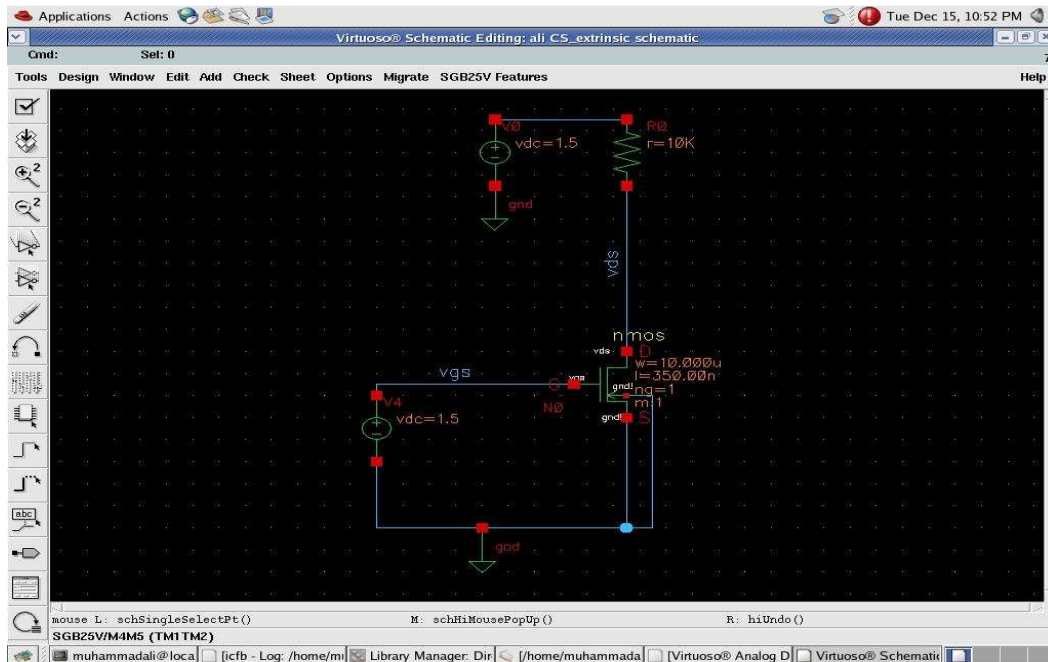

Fig.7: The circuit
Supposedly, you have designed the same schematic that I have shown you in Fig. 7. Now you want to get it simulated so that you can observe the 'time domain' analysis and can also perform the 'ac' and 'dc' simulations. This can be done in the following way by using the *Analog Design Environment (ADE)*.
- With the help of Tools in the ADE, you can determine many important things. E.g. once the transient simulation is done, click on the 'Results' in the ADE, and click on '**Print → Transient Operating Points**'. This will print the operating points in terms of voltages, currents and power on the Virtuoso schematic Editor as is shown in fig.7.